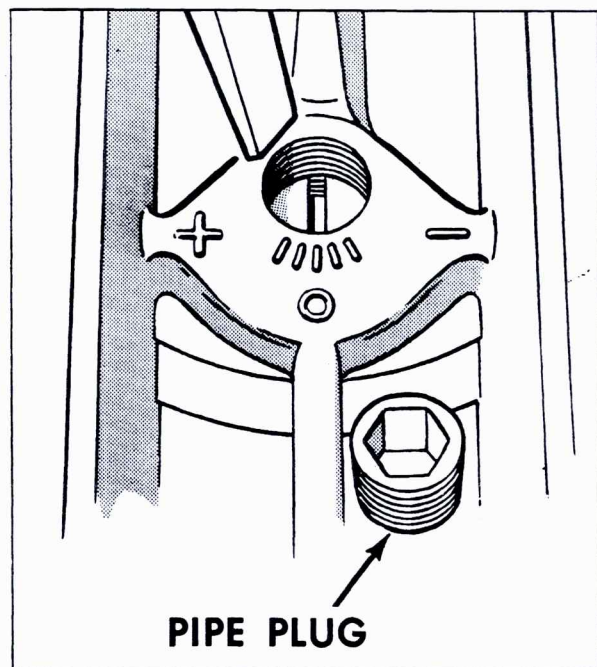

Fig. 6-38 Adjusting Voltage Regulator Setting
44. Adjusting Voltage Regulator Setting (Fig. 6-38)
an overcharged battery, turn counterclockwise one notch (0.3 volt) to decrease setting. See Fig. 6-38. Check for an improved battery condition over a reasonable service period. If necessary, repeat procedure for a higher or lower setting.